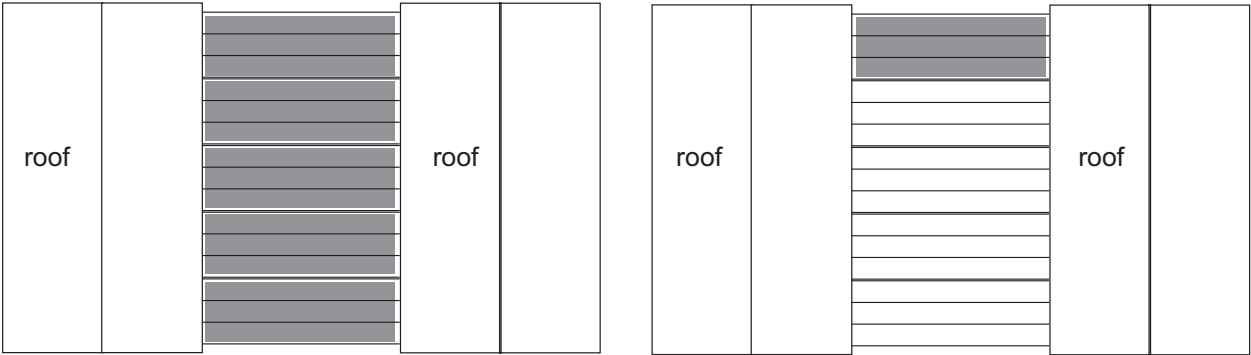

**Fig. 1**
1. The stork clip should be fastened to the main cords beside it (see Figure 1).